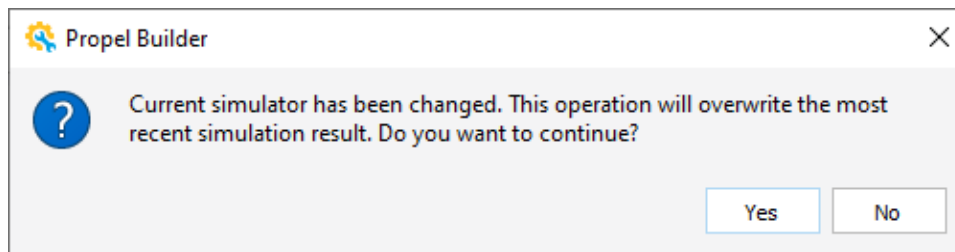

Figure 2.168. Remind for Simulation Tool Change
6. If there is a simulation tool change, make sure to generate simulation environment again. Otherwise, a dialog box pops up prompting you to make a choice of Yes or No (Figure 2.168).